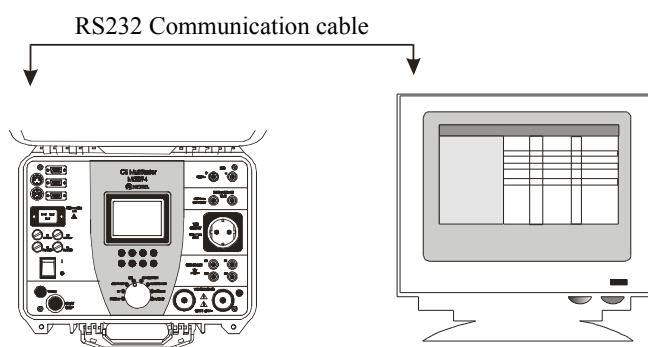

Fig. 53. Connection of CE MultiTester to PC
- STEP 1.** Connect CE MultiTester to PC as shown in fig. 53 using appropriate RS 232 communication cable.